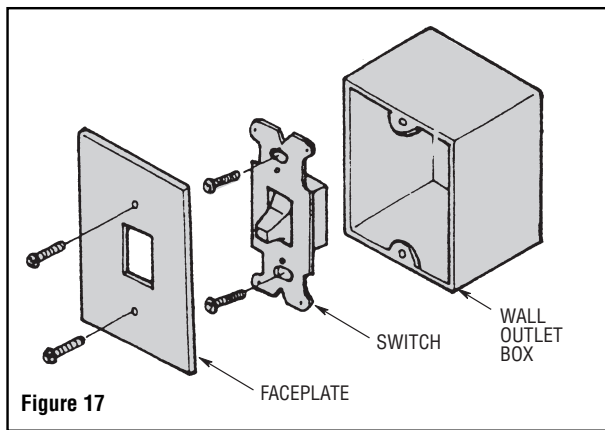

Figure 17
7. Remove the faceplate and screws from the existing wall switch. Pull switch out from wall outlet box (Figure 17).